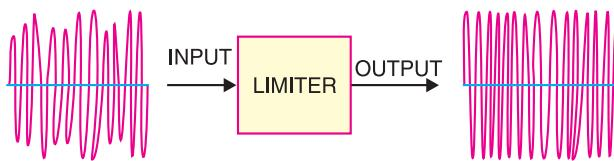

Fig. 16.22
- 3. Limiter Stage.** The output from IF stage is fed to the limiter. This circuit is an IF amplifier tuned to 10.7 MHz but its main function is to remove AM interference from the FM signal. Fig. 16.22 shows how the limiter removes AM interference from the FM signal.